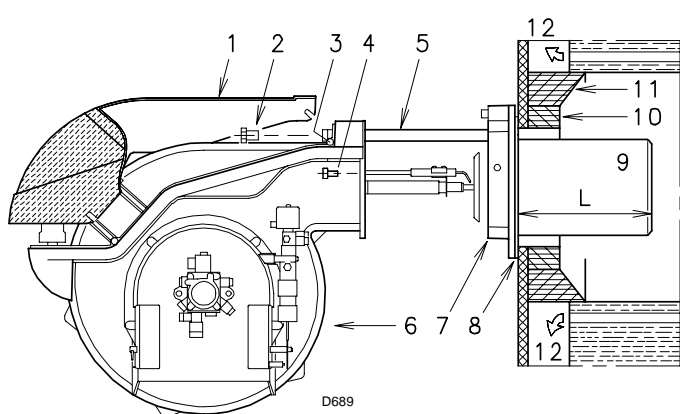

Fig. 7
**5.4 Blast tube length (Fig. 7)**
For boilers having a water-cooled front the refractory fettling 10)-11)(Fig. 7) is not required unless it is expressly requested by the boiler manufacturer.
Once this operation has been carried out (if it was required), secure flange 7) (Fig. 7) to the boiler plate interposing the supplied gasket 8). Use the 4 screws provided after having protected the thread with anti-seize products (high-temperature grease, compounds, graphite).
- Retract the burner on its slide bars as shown in (Fig. 7 pag. 11).